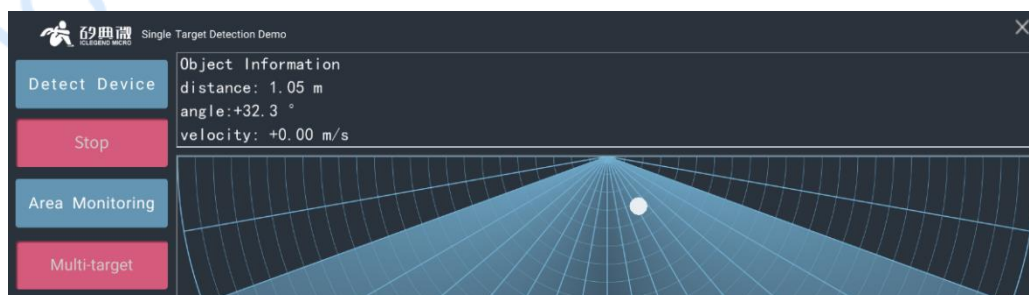

Figure 4-5 Example of single target detection demonstration
Step 3: Click the **Start/Stop** toggle button, the GUI will display the position of the detected target referring to the radar, an example is shown in Figure 4-5;